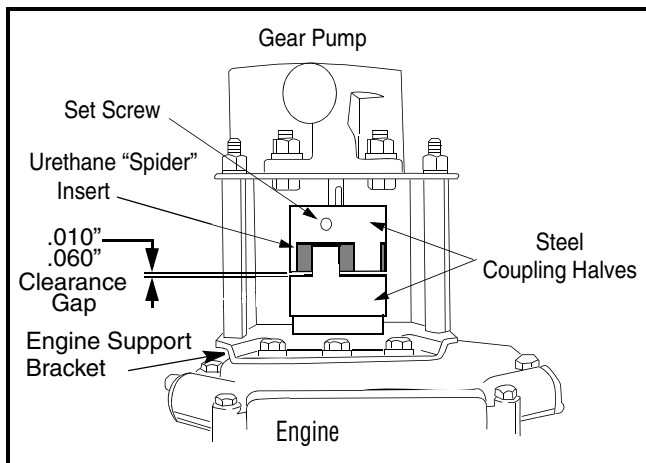

FIGURE 5
27. Slide the pump coupling half towards the engine coupling half until there is a .010" to .060" clearance/gap between the spider bushing and the engine coupling half. Use a feeler gauge between the spider bushing and the engine coupling half. Tighten engine coupling half to the pump shaft. Torque set screw to 78 in-lbs. See Figure 5.